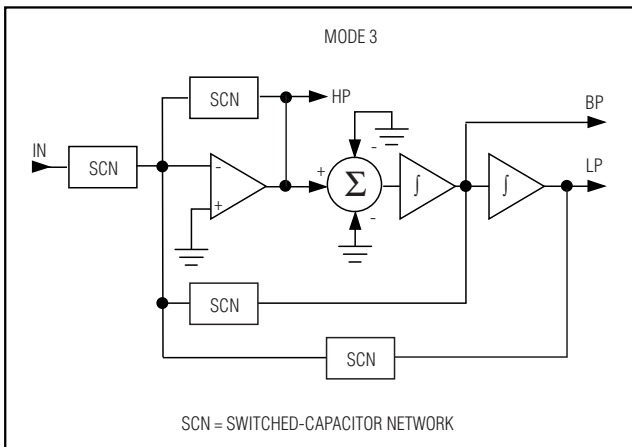

Figure 9. Filter Mode 3: Second-Order Bandpass, Lowpass, and Highpass
**MODE 3** (Figure 9) is the only mode that produces high-pass filters. The maximum clock frequency is somewhat less than with mode 1 (see Table 1).